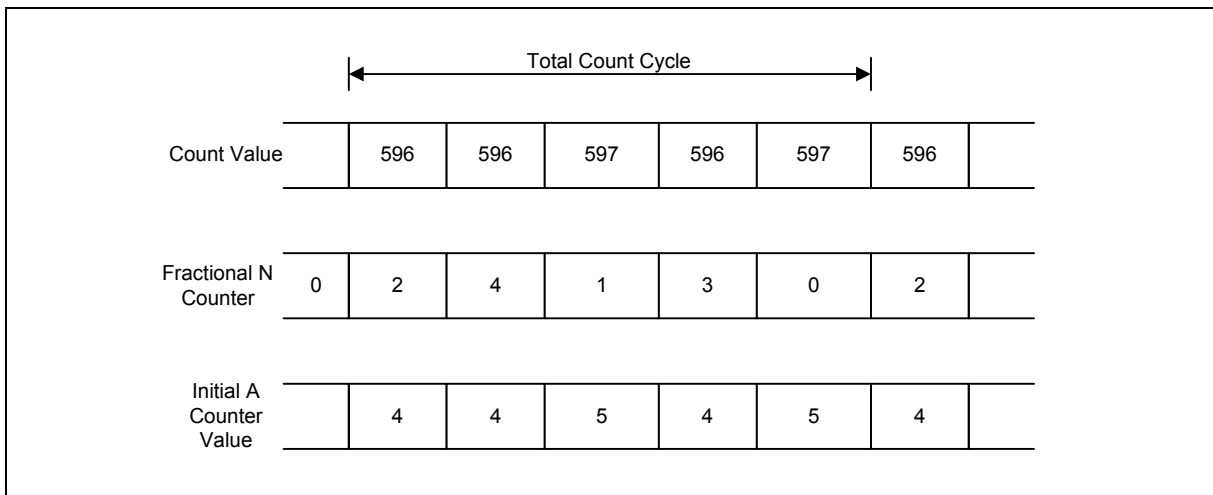

Figure 10 - UHF Synthesizer - Fractional N Operation
An example is shown in Figure 10 for a divide ratio of $596 + 2/5$. The values for M, A, B are calculated using the integer value (596) as in the previous example. The fractional denominator is programmed as 5 and the fractional numerator as 2. At the end of the first count cycle (596) the fractional counter is incremented to 2. At the end of the third count cycle the fractional N counter overflows, incrementing the A counter by 1 which gives a subsequent count cycle of 597. After five count cycles the sequence repeats with a total count of 2982 over the five count cycle giving a mean value of $596 + 2/5$.